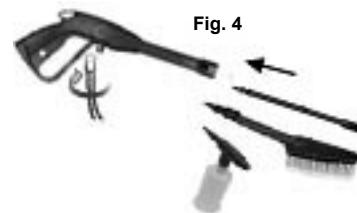

Fig. 4
3. Once the high pressure hose is connected to the trigger gun, you can attach the lance, brush or soap dispenser accessories. To attach either the lance or the brush to the trigger gun, hold the trigger gun in your left hand insert the desired accessory and push it in all the way into the connector on the trigger gun and turn it clockwise 60° until it locks in place. To remove the attachment, push down on the attachment and turn counter-clockwise 60° and then pull out. Make sure that the attachments are securely locked in place before use. (Fig. 4)